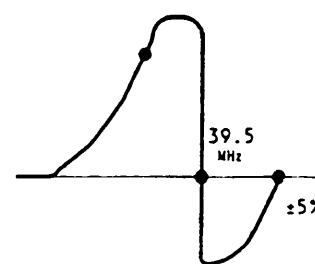

Fig 5.
- 2: Adjust T106 so that the picture carrier 39.5 MHz is as centred as in Fig. 5.